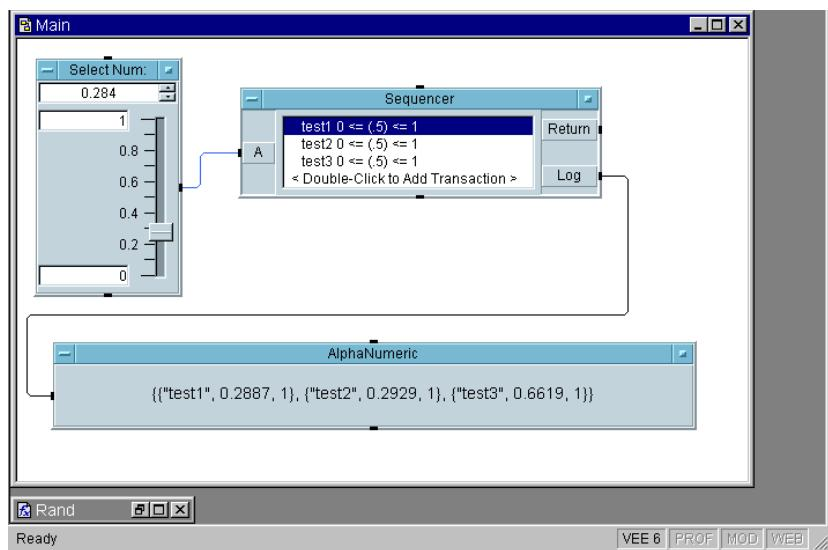

Figure 9-7. Passing Data Using an Input Terminal
3. Save the program again as `seqdat1`. Select a number on the Real64 Slider object and run `seqdat1`. It should look like Figure 9-7.